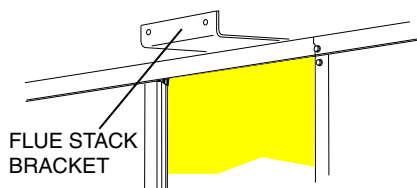

FIGURE 2 : ATTACHING FLUE STACK BRACKET
4. Attach the flue stack bracket, (Item 3), to the furnace section roof. Center the bracket directly over the flue opening, with the double-bend flange extending upwards, as shown in Figure 2. Align the two nearest holes (1/4" dia.) with the edge of the furnace roof. **Carefully** drive #10 x.500 long tap screws, (Item 10), into the remaining holes in the bracket. Seal these screws with silicone sealant, or replace them with cabinet-type screws, (Item 9), after the holes are drilled.